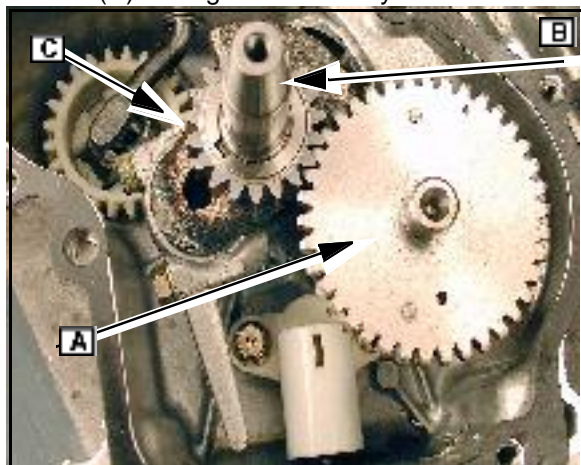

Fig. 1
With the cover removed, the following components are visible: (Refer to Fig. 1)
4. Align timing marks and lift out the camshaft ([A] Fig. 1).